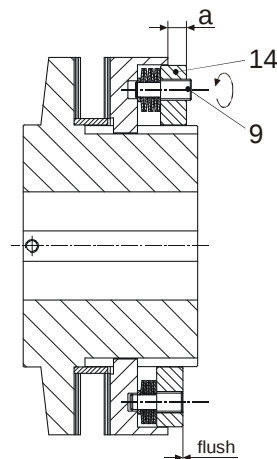

Fig. 22
Distance "a" in Figs. 22 and 23 indicates the sizes of the slipping torque setting regardless of the degree of the friction lining wear. An adjusting table is attached to the clutch, which shows the dimension "a" for a given slipping torque related to the cup spring layer.
In the case of slip hubs sizes 6 – 12, dimension "a" is determined by using the chart, which is glued, and moved on the adjusting nut (item 14) in accordance with the Fig. 22 with a face wrench via the hexagon-socket of the cup spring supporting pins (9) without any force until they make contact with the cup springs, or if necessary the cup spring supporting pins must slightly be turned back